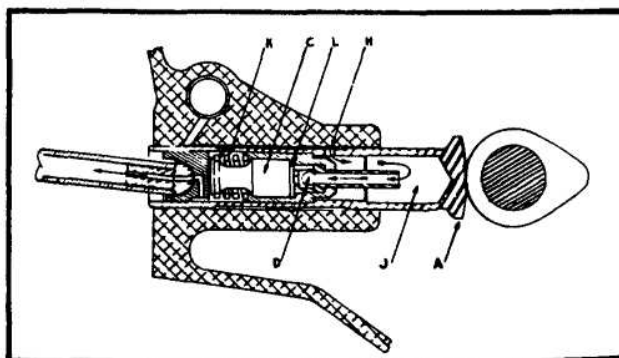

Figure 8. Section Through Hydraulic Valve Lifter.
Each lifter assembly is composed of an outer body, a hydraulic unit and a pushrod socket. These parts are illustrated in Figure 8. The cam follower is part of the lifter body. The shank of the body is encircled by two oil grooves, which are connected by a flat area. Two holes are drilled through the shank wall in the flat. The hydraulic unit rests against a shoulder in the body. It is composed of a cylinder and a plunger and expanding spring assembly. An inlet tube at the inner end of the cylinder is closed by a ball check valve inside the cylinder. The pushrod socket rests on the head of the hydraulic unit plunger. Its flat base has an oil groove across the center. A hole is drilled from the groove to the socket surface.
Rotation of the lifter is assured by a small taper on the toe line of the cam lobe. This prevents wearing of a groove in the cam follower face. At the outer end of the lifter stroke the outer encircling groove in the shank registers with the crankcase oil supply hole, and engine lubricating oil is forced into the groove, to the flat area and through the two holes in the shank wall. Oil entering the outer hole fills the space surrounding the plunger head, and the intermittent supply flows through the pushrod socket passage and into the hollow pushrod. Oil which enters the inner hole in the shank wall replenishes the reservoir supply. This inlet is indicated in Figure 8 by the letter "H". Whenever the valve in the engine cylinder is closed, the cam follower (a) is in contact with the heel of the cam lobe, as shown in Figure 8. Since there is no inward force on the pushrod, the plunger spring (K) holds the plunger (C) and the socket outward against the pushrod end and the hydraulic unit cylinder and
Oil rises, under atmospheric pressure, from the sump supply through the suction tube to fill the volume displaced by the pump. The oil is carried around the chambers between impeller teeth and is forced from the pump outlet port through the crankshaft cover passage to the cavity surrounding the oil screen. As the oil flows through the screen mesh, any foreign particles are deposited on the exterior. The strained oil flows from the open front end of the screen, through a short cored passage, and into the rear end of the left oil gallery. The oil stream flows forward through the left gallery, across the crankcase, through the passages connected by the camshaft front journal groove, and into the right gallery. The oil pressure relief valve closes the rear end of the right gallery until delivery of the pump creates a pressure above the normal range of 30 to 35 psi. Excessive pressure opens the valve, allowing oil to drain into the crankcase rear cover, until the pressure again drops to normal. Three oil ducts, drilled from crankshaft main bearings to the left oil gallery, conduct a portion of the oil stream to these bearings. Other drilled holes conduct a portion of the oil to the camshaft bearings. Part of the main bearing supply flows through crankcheek passages to the crankpins. The oil film formed in all of these bearings is continually replenished, and oil is forced to spray from their ends, filling the case with a mist. Oil sprayed into the cylinders is scraped back into the case by piston rings. Piston pins and cylinder walls are lubricated and cooled by the spray. Gears in the crankcase cover cavity are lubricated by spray from rear main and rear camshaft bearings. Valve lifters are supplied with oil, as described in paragraph 3-16 and shown in figure 8. From the lifter sockets, oil flows through